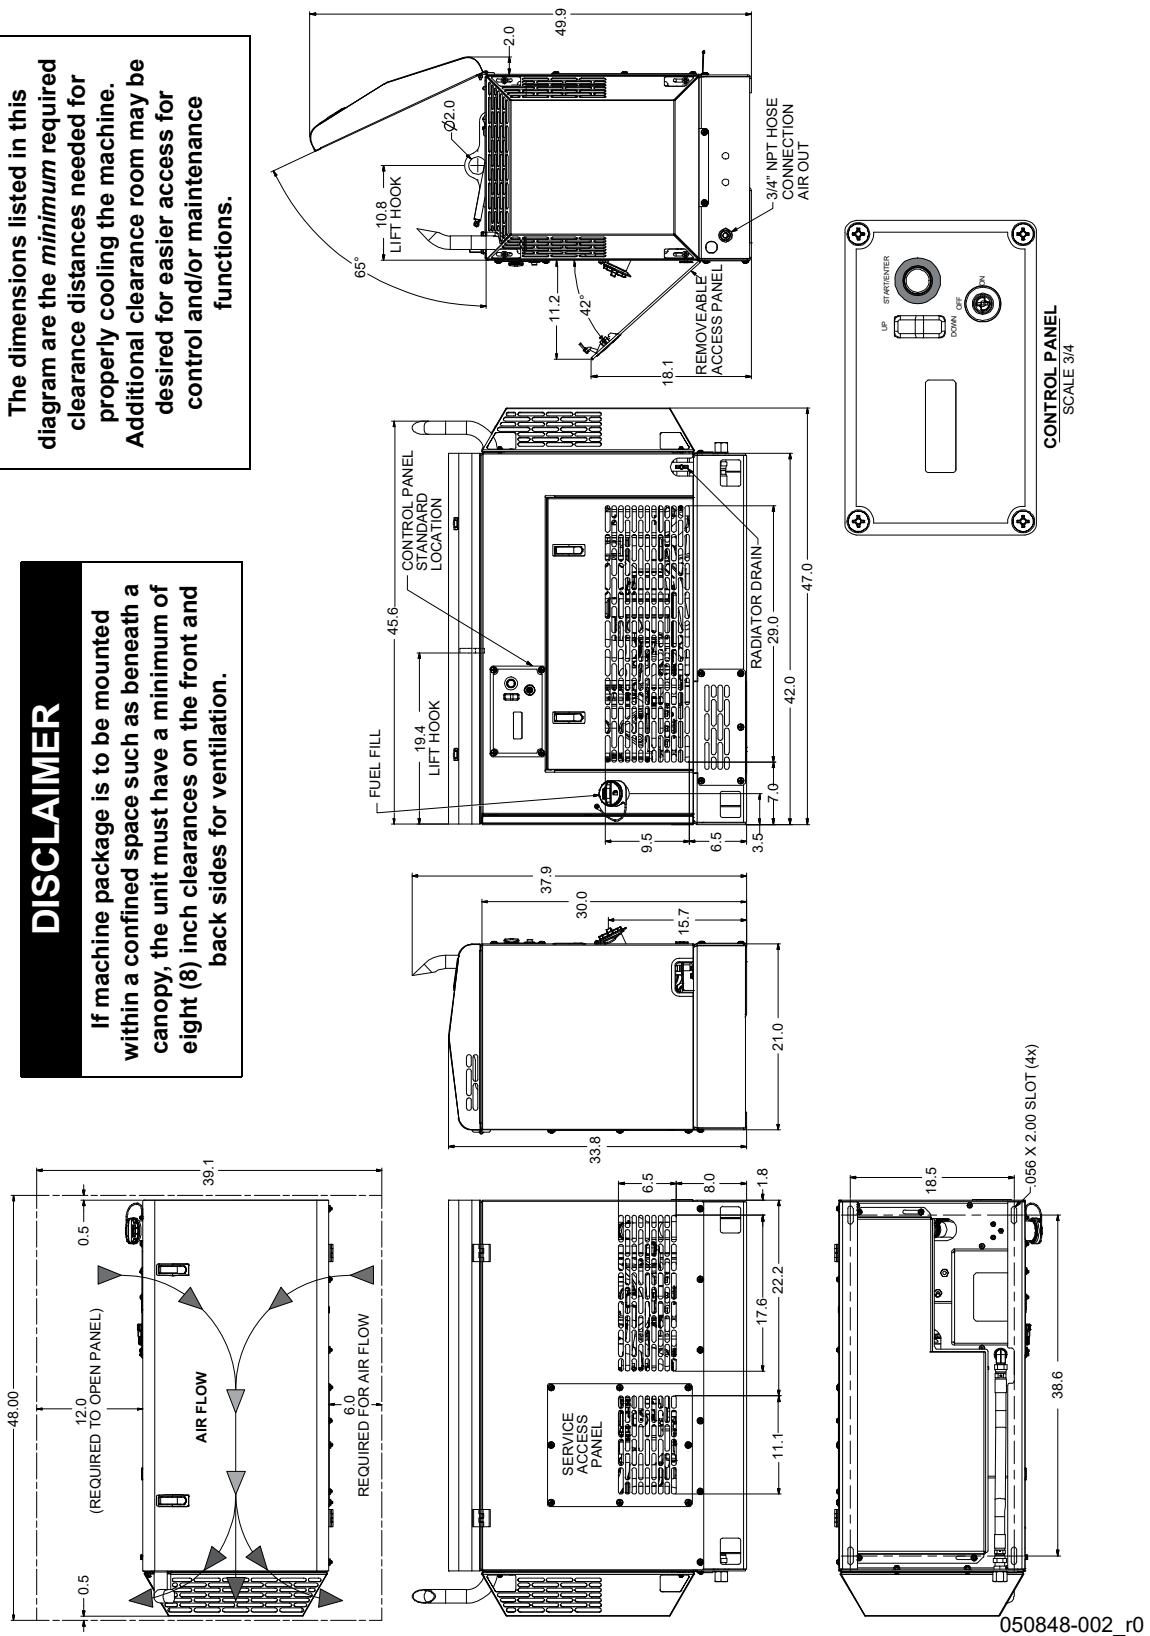

Figure 3-1: Dimension Diagram
Refer to **Figure 3-1 (Parts 1 and 2)**, and the following procedure and conditions:
- Be sure to leave sufficient room around the machine for cooling air. See **Figure 3-1**.